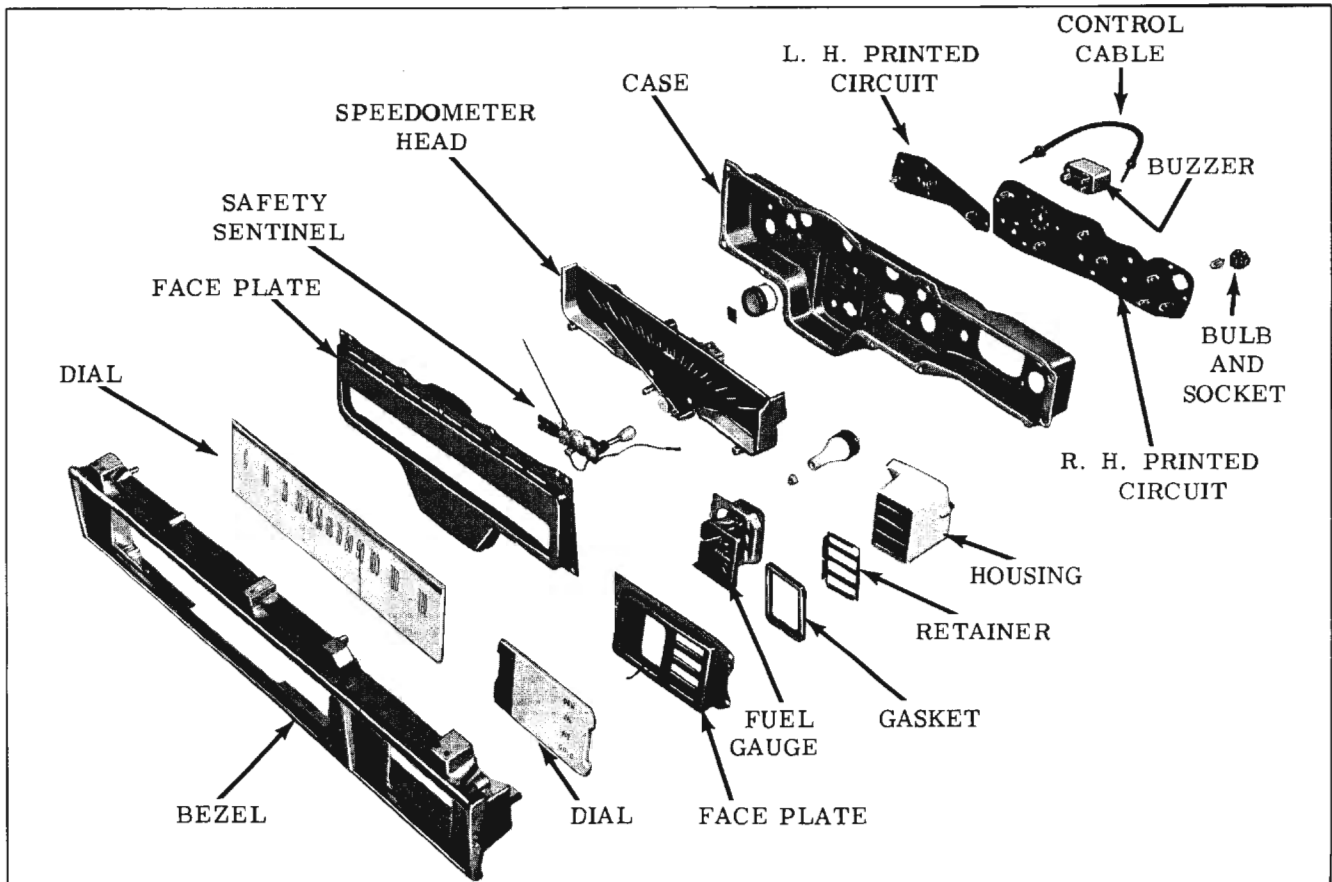

Fig. 13-3 Speedometer Head Exploded
6. If necessary to replace any internal components of the instrument cluster, refer to Fig. 13-3.